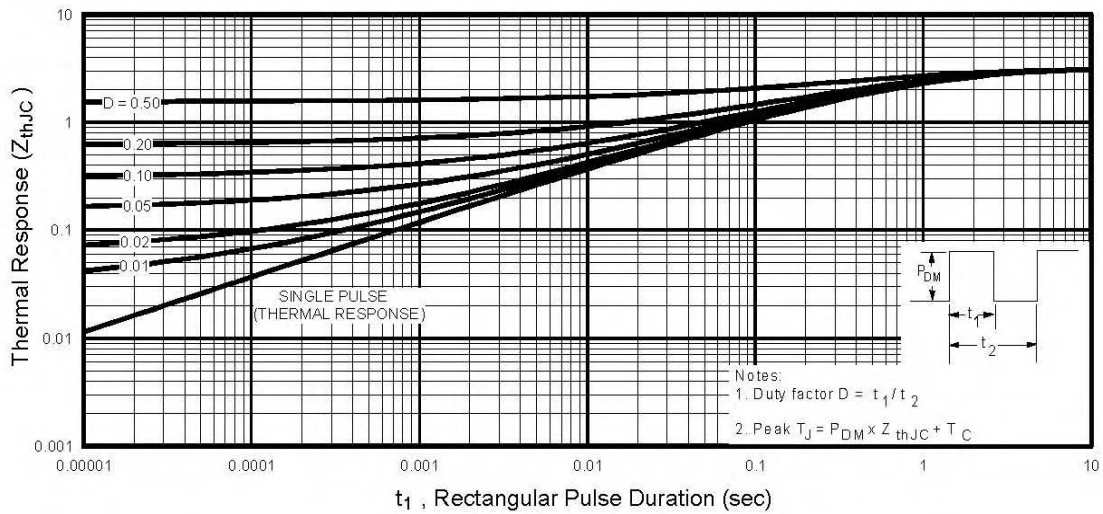

Fig 11. Maximum Effective Transient Thermal Impedance, Junction-to-Case
- ① Repetitive rating; pulse width limited by max. junction temperature. (See fig. 11)
- ② $I_{SD} \leq 17A, di/dt \leq 150A/\mu s, V_{DD} \leq V_{(BR)DSS}, T_J \leq 150^\circ\text{C}$
- ③ $t = 60s, f = 60Hz$